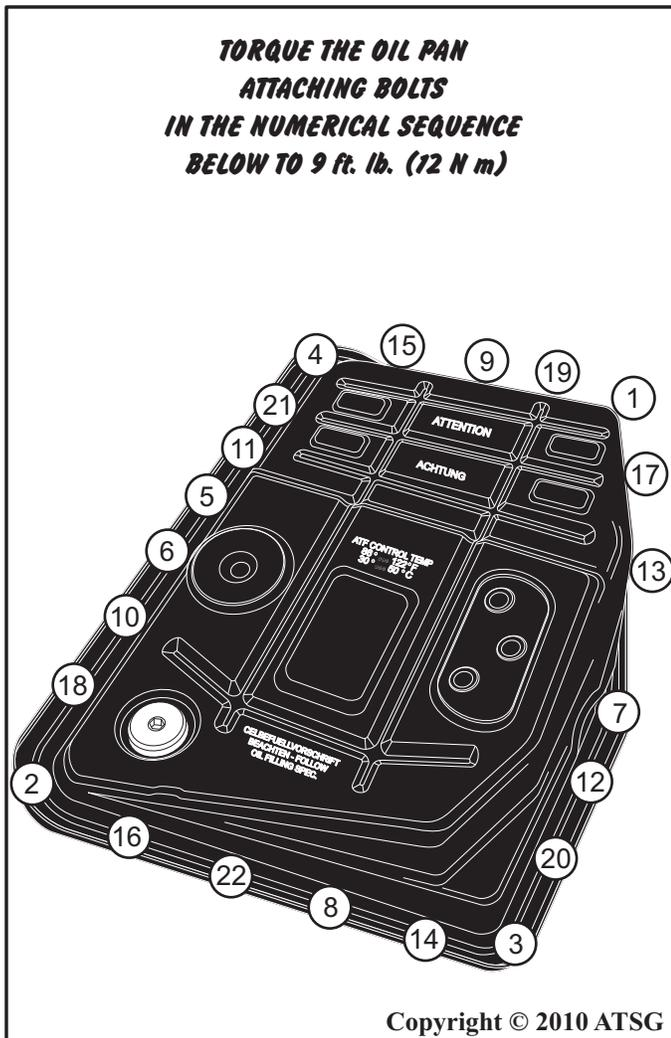

Figure 34
82. Tighten all 22 oil pan attaching bolts using the numerical sequence shown in figure 34.
83. Torque all 22 oil pan attaching bolts to 9 ft. lb. (12 N m) using the numerical sequence shown in figure 34.